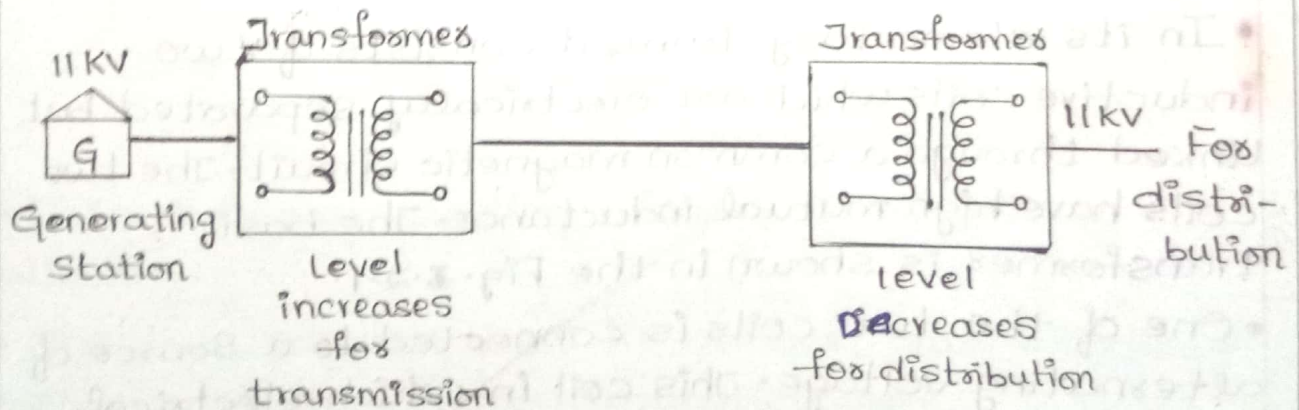

Fig. 3.1.1 Use of transformer in transmission system
• The use of transformer in a.c transmission system is shown in the Fig. 3.1.1,